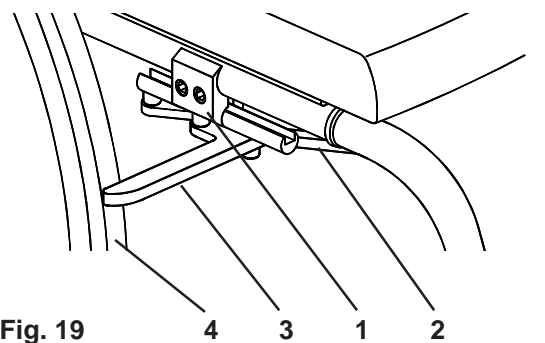

Fig. 19
Scissor wheel locks are shown in Fig. 19. The locks mount on clamping systems (1) and are correctly set prior to leaving the factory. To apply the wheel lock pull the operating lever (2) forwards until you feel it go over centre, and the grip arm (3) grips the tyre (4). Scissor locks can also be mounted on the lower frame tube (Fig. 19B). When mounted in the lower position the left hand lock must be mounted on top of the right hand frame, and vice versa.